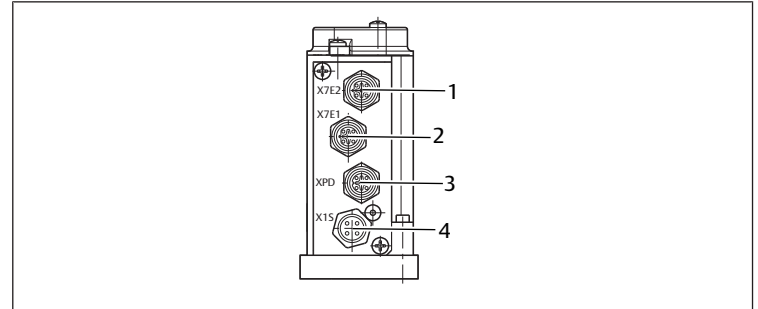

Fig. 3: Connections and plugs
The bus system is connected using M12, 5-pin, D-coded data plugs. The physical sequence of the devices in a PROFINET system can be chosen arbitrarily. The X7E1, PROFINET (2) and X7E2, PROFINET (1) connections are therefore interchangeable and may only be configured when not in operation. See → Fig. 3.